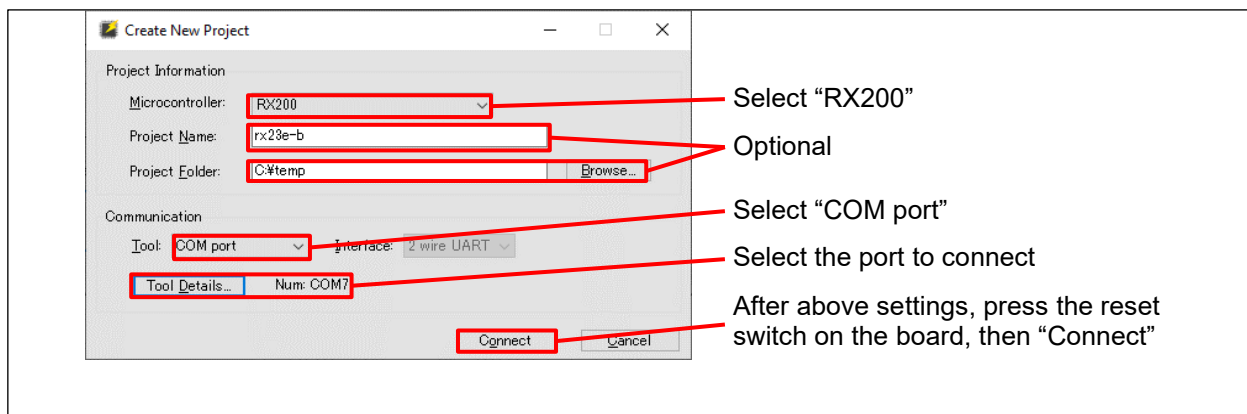

Figure 3-4 Renesas Flash Programmer "Create a New Project"
3. Activate Renesas Flash Programmer, configure settings from menu "File" > "Create a new project" referring to Figure 3-4, press the reset switch on the RSSKRX23E-B board, then press "Connect".